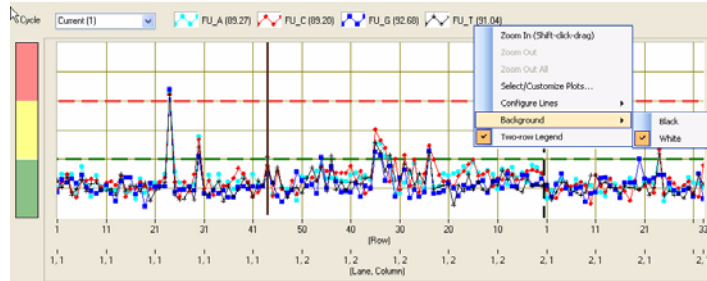

Figure 109 Setting White Background
- ▶ You can set the background to white as shown in Figure 109.